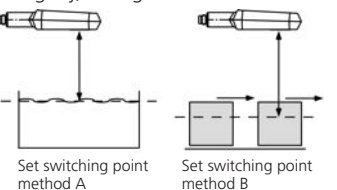

Fig. 3: Setting the switching point for different directions of movement of the object
■ If the object to be scanned moves into the detection area from the side, the »Set switching point +8 % – method B« Teach-in procedure should be used. In this way the switching distance is set 8 % further than the actual measured distance to the object. This ensures a reliable switching distance even if the height of the objects varies slightly, see figure 3.